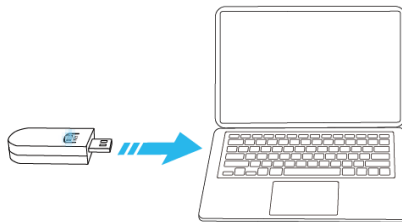

Figure 4.4 Install Bluetooth dongle
Step 1 Connect Bluetooth dongle to the USB interface of the computer, as shown in Figure 4.4.